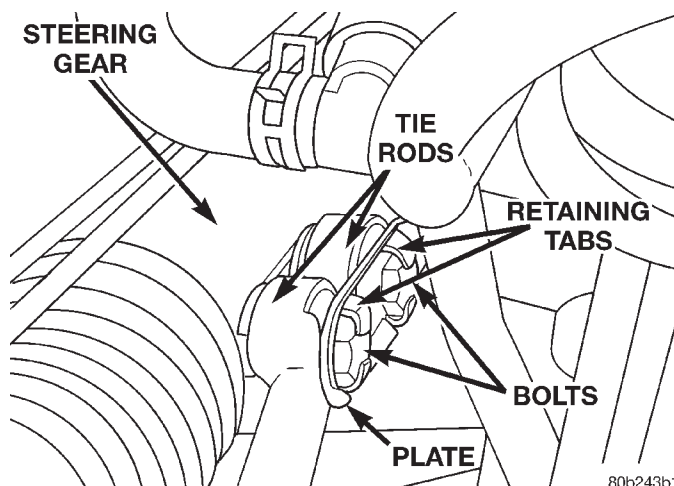

Fig. 23 Tie Rod Attachment Bolt Retaining Tabs
(11) Bend back the retaining tabs on the mounting plate for the tie rod to steering gear mounting bolts (Fig. 23).
CAUTION: After tie rod attaching bolts are torqued, bend attaching bolt retaining tabs against heads of attaching bolts (Fig. 23).